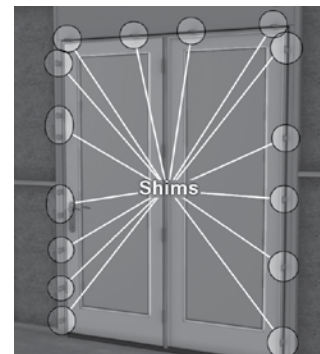

Figure 8
**1h) (Required)** Place shims along the jambs and head on the interior of the unit (figure 8 & 10) **behind each hinge, strike plate and all through jamb fastener points.** For Florida installation, the shims must be the full depth of the jamb. **Tip:** Apply some sealant to the shim contact surface and this which will hold it in place until the door is secured.